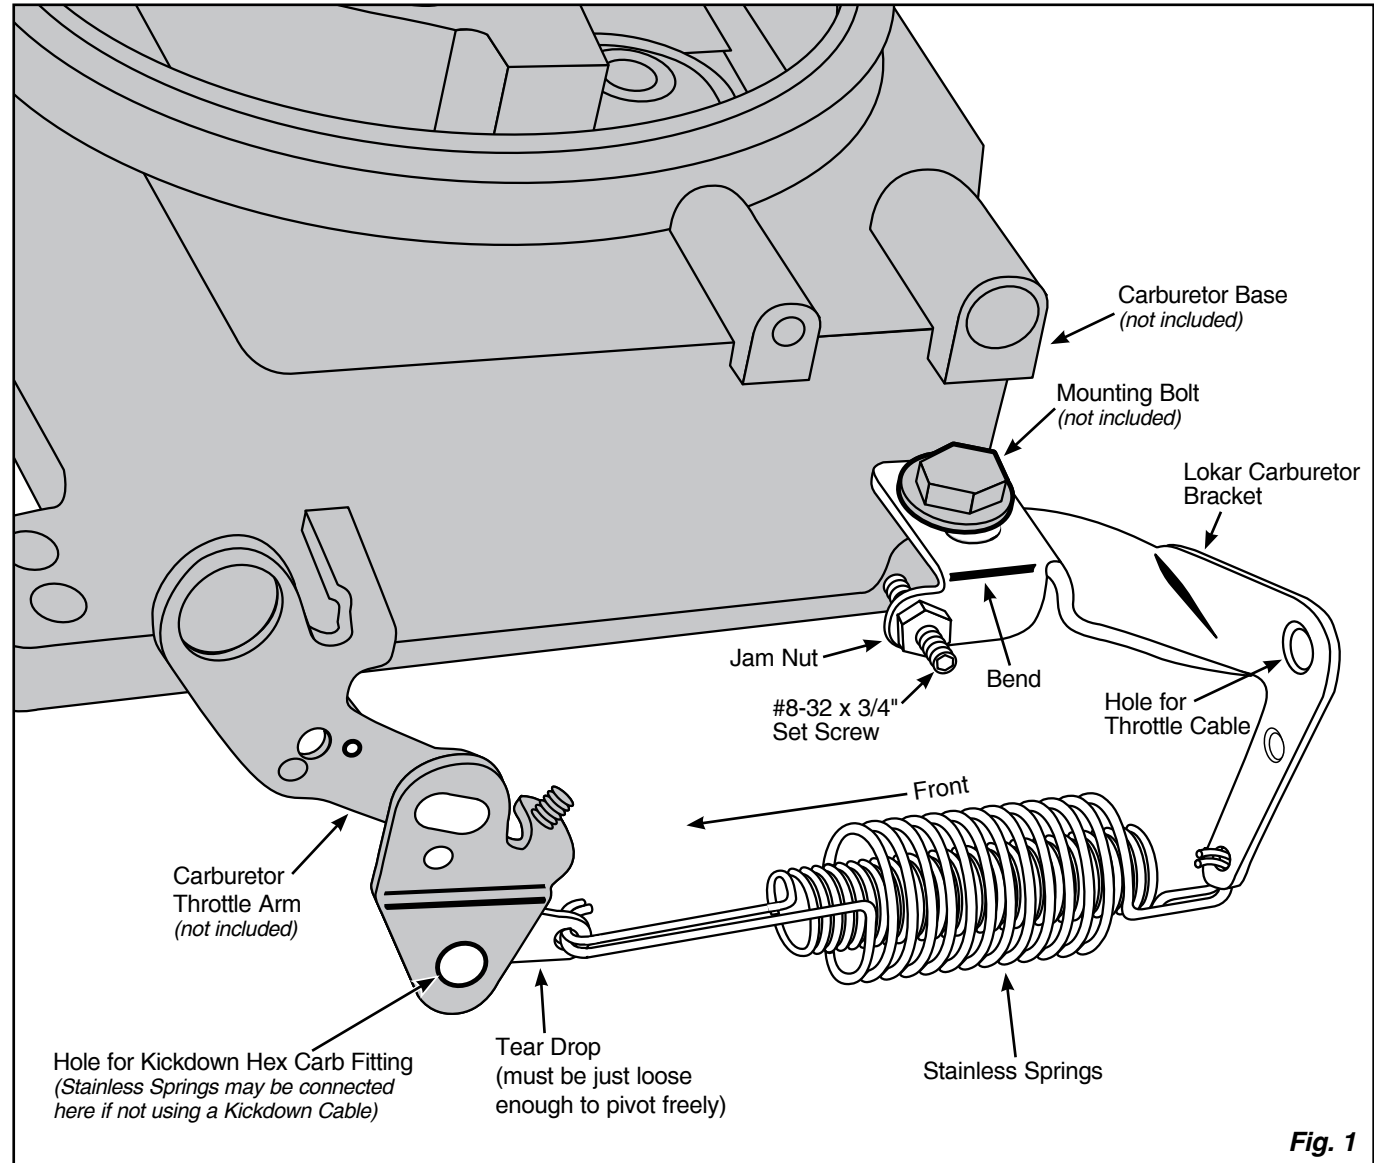

Fig. 1
Step 1: Remove the carburetor base mounting bolt from the left rear corner of the carburetor, and position the Lokar Carburetor Bracket as shown in **Fig. 1**. Install the carburetor base mounting bolt only finger-tight.
Step 2: Position the Lokar Carburetor Bracket so the bend that is labeled in **Fig. 1** is parallel to the carburetor base front to back.